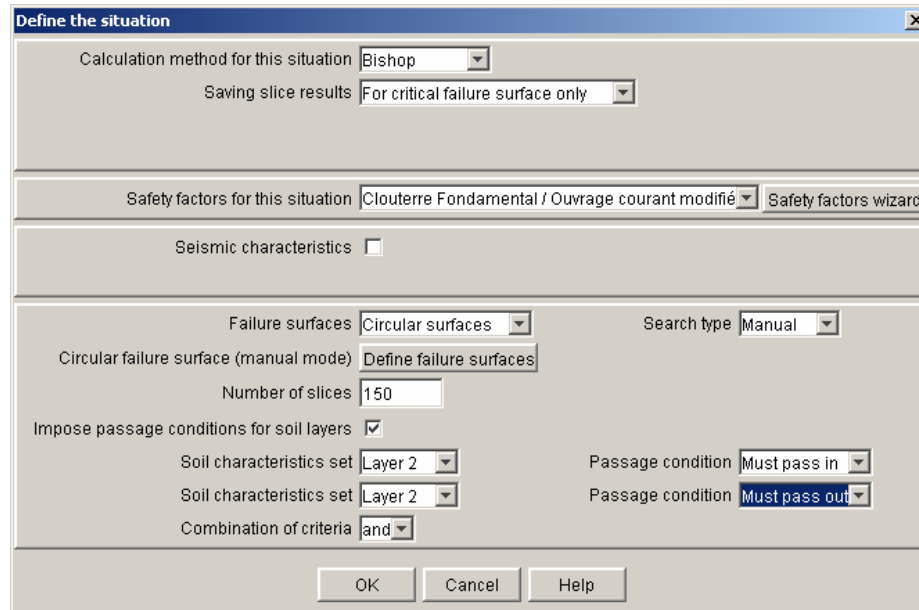

Figure 104: conditions dialogue box: impose passage conditions
- Data requested for all types of failure surfaces (Figure 104)
- *Impose passage conditions for soil layers*: this checkbox enables to define passage conditions (it is not compulsory). New data are then requested (Figure 104):